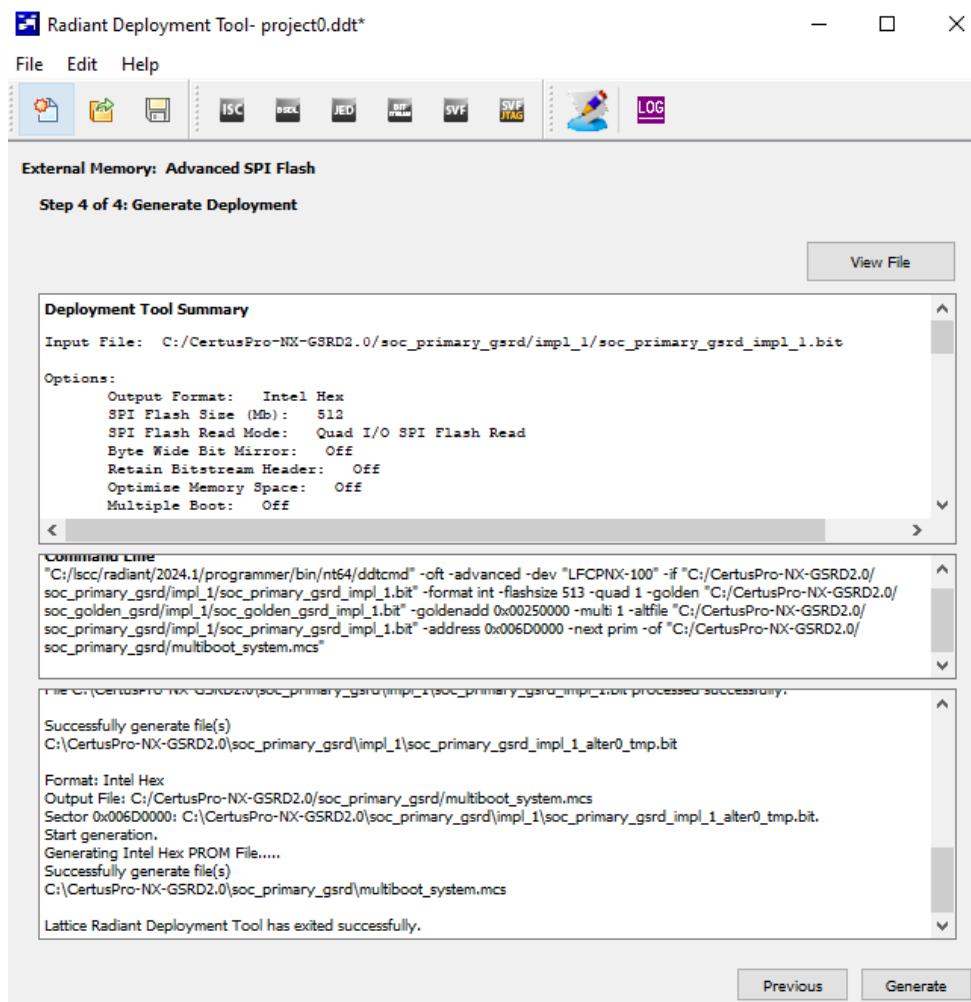

Figure 8.68. External Memory Step 4 of 4: General Development
10. In Step 4 of 4: Generate Deployment, click **Generate** at the bottom right corner as shown in Figure 8.68.